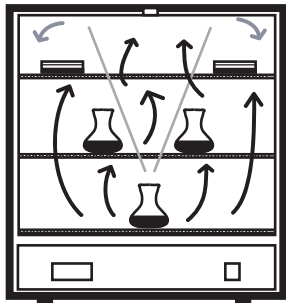

FIG. 6
- Stagger articles from those on lower shelves in a "V" formation. (FIG. 6)